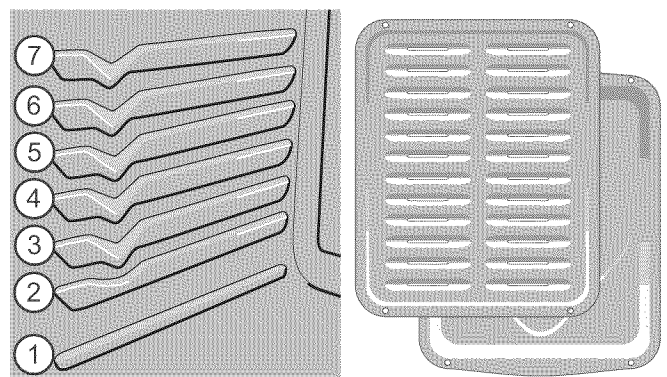

Figure 25: Broil rack positions and broil pan with insert
2. Position bakeware in oven to the preferred rack position. (Figure 25).